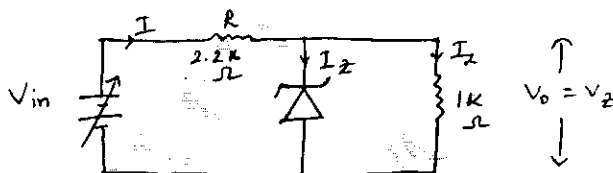

Fig.Q2(c)
- c. For a zener regulator shown in Fig.Q2(c), calculate the range of input voltage for which output remain constant. $V_Z = 6.1V$, $I_{Zmin} = 2.5mA$, $I_{Zmax} = 25mA$, $r_Z = 0\Omega$.